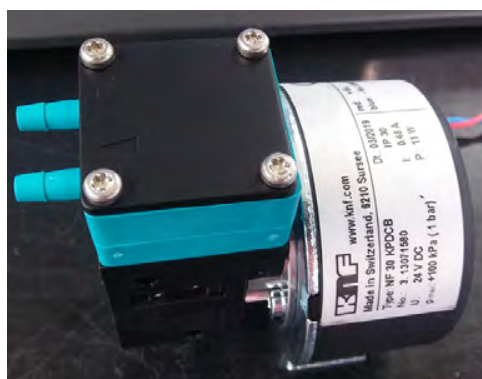
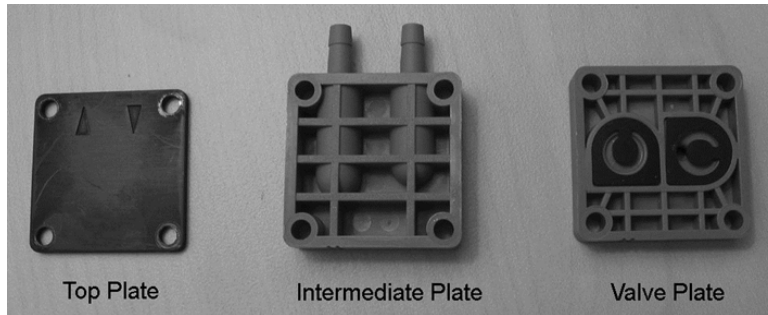

Figure 77: ICR Pump and Diaphragm Housing
Figure 78: ICR Pump Plates
1. Locate the pump diaphragm housing (Figure 77).
2. Using a Torx T10 driver, loosen the four screws on the pump (Figure 77) and lift the black head plate from the intermediate plate (Figure 78).
3. Remove the intermediate plate and remove the valve plate (Figure 78). If necessary, carefully clean the head and intermediate plates of any residue. Be careful not to scratch the parts.